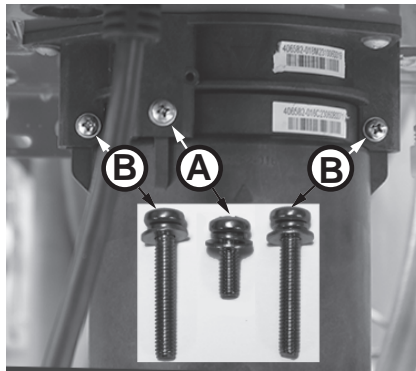

Figure 127 - Identify cartridge screws
- 6** Locate the three (3) screws securing the X3®/Bypass cartridge as shown in Figure 127. Remove the **(A)** M4-12mm screw and the two **(B)** M4-25mm screws from cartridge. Place screws aside in a safe place for reinstallation.